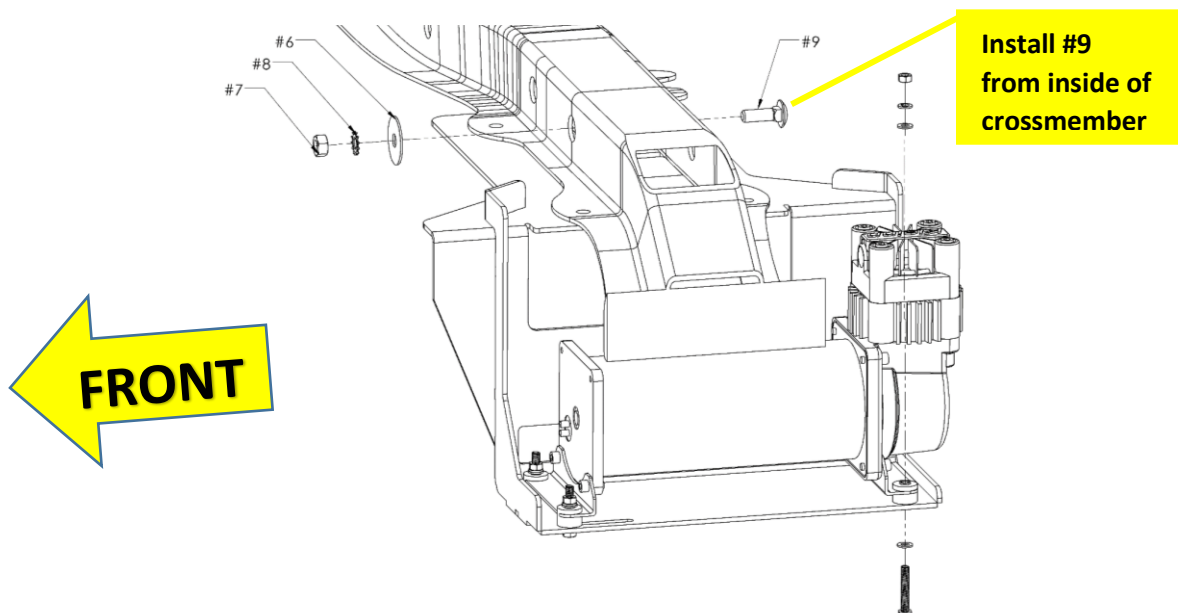

Figure 11 - TUNDRA-101 with Air Compressor and Hardware; Exploded View (6450RC Shown)
- 10.2.6. Place Air Compressor onto Compressor Bracket (TUNDRA-101) and secure using M5 bolts, nuts and washers, as supplied inside Air Compressor box. Tighten all compressor feet bolts to 28-32 in-lbs, once desired compressor position is acquired. See Figure 11.